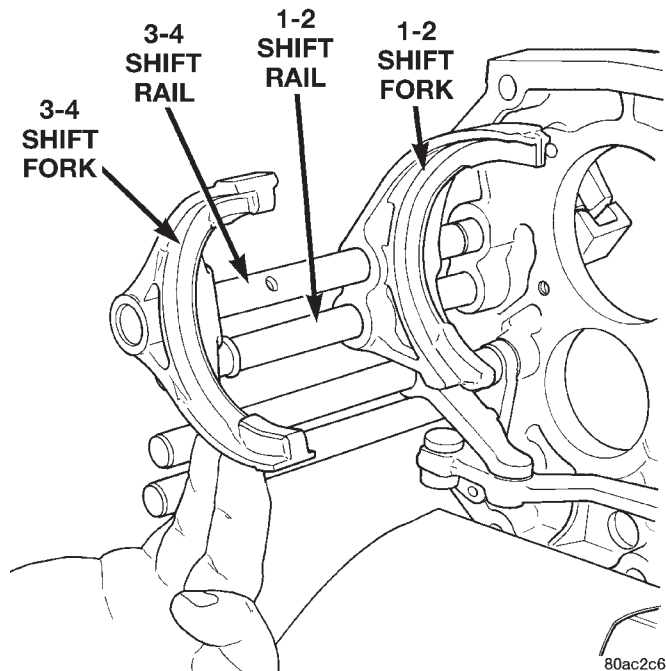
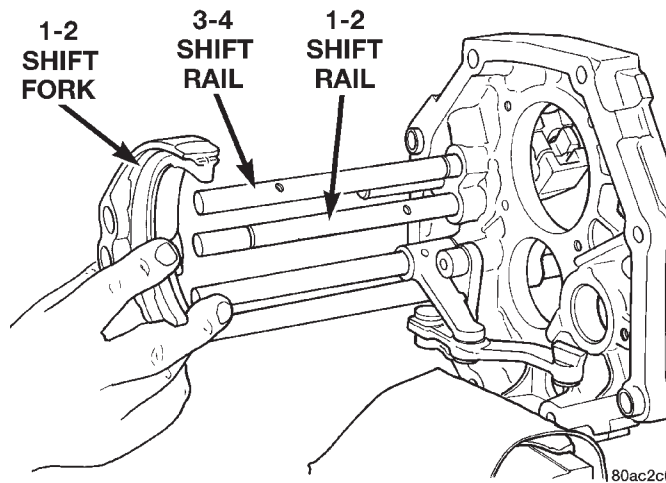

Fig. 64 Remove 3-4 Shift Fork
Fig. 65 Remove 1-2 Shift Fork
(18) Remove the 3-4 shift fork from the 3-4 shift rail (Fig. 64).
(19) Remove the snap-ring from near the end of the 1-2 shift rail to allow the removal of the 1-2 shift fork.
(20) Remove the 1-2 shift fork from the 1-2 and the 3-4 shift rails (Fig. 65).